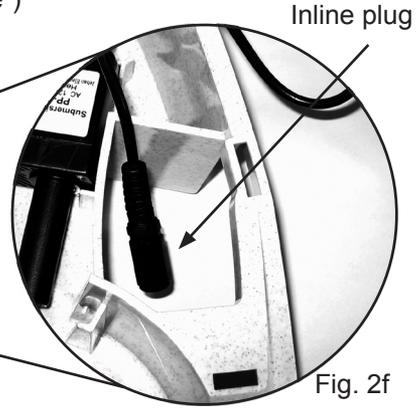

Fig. 2f
- 6) You can then remove the motor by disconnecting the inline plug, (Fig. 2f) then lift it out of the fountain. Clean away any hair or kibble that may have accumulated around the flow control knob and the intake plate of the pump. (See “Motor Maintenance”)